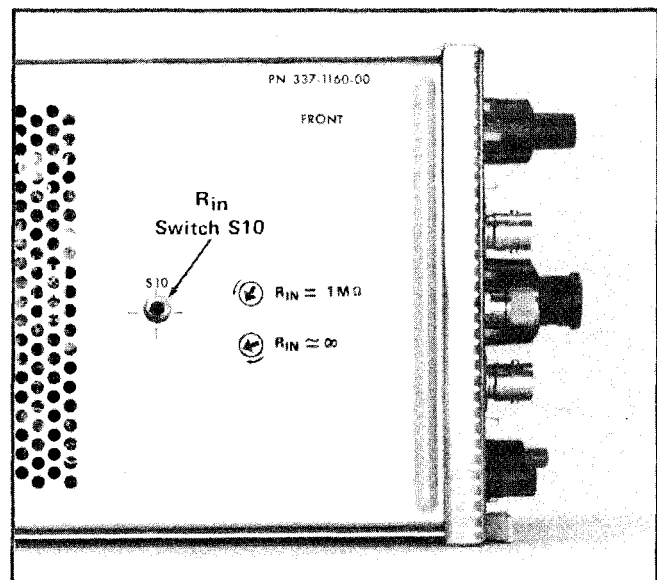

Fig. 5-1. Location of the R_{in} switch S10 on the Attenuator board.
1. Set the 7A13 R_{in} switch, S10 (see Fig. 5-1), to the $R_{in} = 1\text{ M}\Omega$ (counterclockwise) position.
R_{in} (internal switch, S10, see Fig. 5-1)	$R_{in} = 1 M\Omega$ (see Preliminary Procedure, step 1)